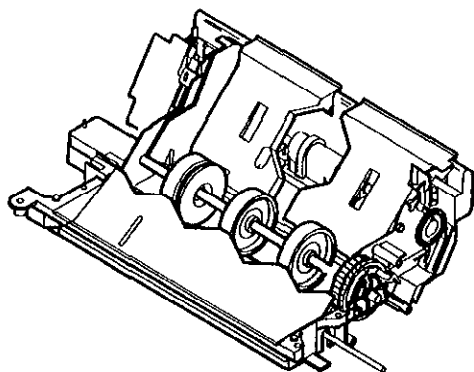
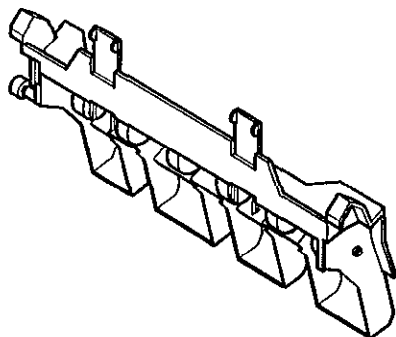

Figure 8 Paper Feed Rollers
Figure 9 Paper feed guide assembly and paper feed pinch rollers.
- paper feed pinch rollers (Figure 9)
5. Clean the paper feed rollers (figure 8) and paper feed guide assembly and paper feed pinch rollers (figure 9) with a soft cloth moistened with water.